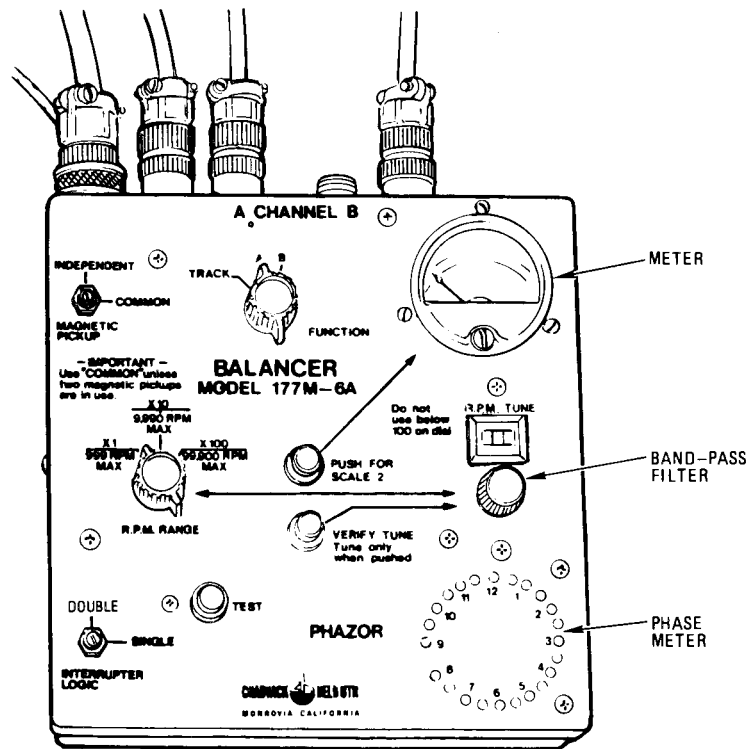

Figure 1-2. Balancer/Phazor 177M6A
a. Balancer/Phazor 177M6A. The key feature of the Balancer/Phazor (fig. 1-2) (hereafter referred to as Balancer) is a tuneable, electronic bandpass filter which is tuned to reject all but one frequency, or vibration under study. The meter reads the level of vibration at the rate (RPM) of concern, which is indicative of the amount of the required change (track or balance). The Phazor section contains a phase meter that reads clock angle, or phase angle, between a one-per-revolution Magnetic Pickup azimuth signal from the rotor and a vibration signal from the Accelerometer.